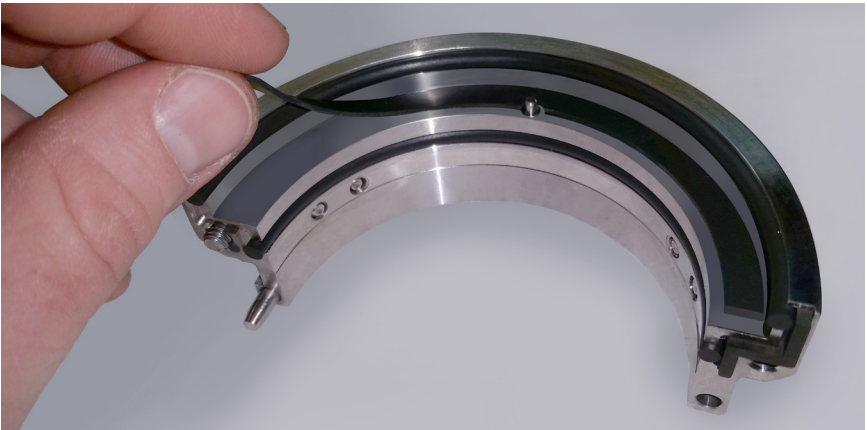

Figure 13
- 5.5 Set the seal drive face up on the bench. Lubricate both sides of the vibration damper with supplied 206 seal lube. Place the vibration damper on the seal drive rotor face support surface using the drive pin as a locator. See Figure 13.